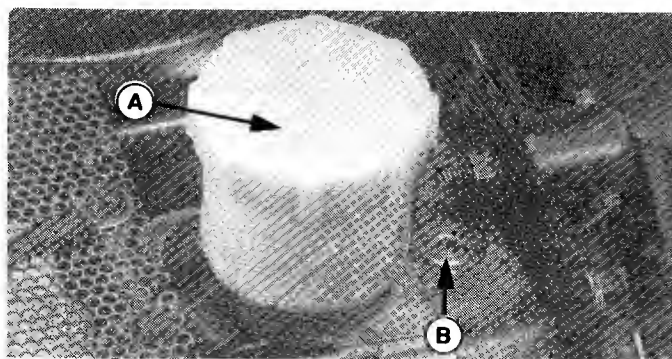

Figure 18. Hydrostatic Reservoir
3. The fluid level is visible in the reservoir (figure 18) without removing cap. The level should be at COLD level mark. If not, go to step 4.
4. Remove the reservoir cap. Add *Simplicity* Multipurpose Hydraulic/Transmission Oil or Deutz Allis Power Fluid 821. If reservoir is empty, remove plug (B, figure 18) to add oil. The plug may be a socket head screw as shown or a capscrew. If the oil is black or milky, see your dealer to determine cause.